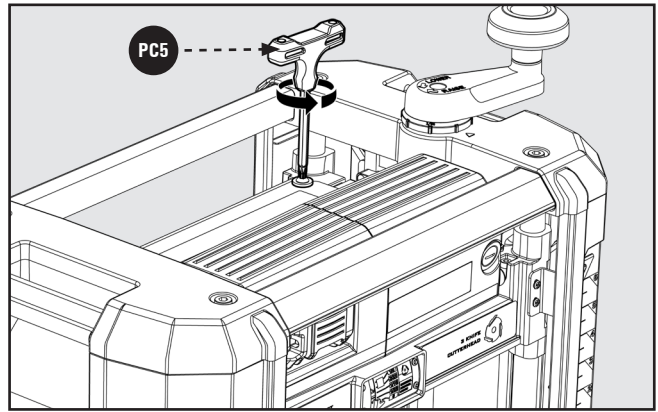

FIGURE 5
2. Using the wrench provided, remove the two M6 x 20mm Torx screws **PC6** and flat washers **PC7** that secure the dust deflector **F11**. Save these for step 4. See Figures 5 & 6.